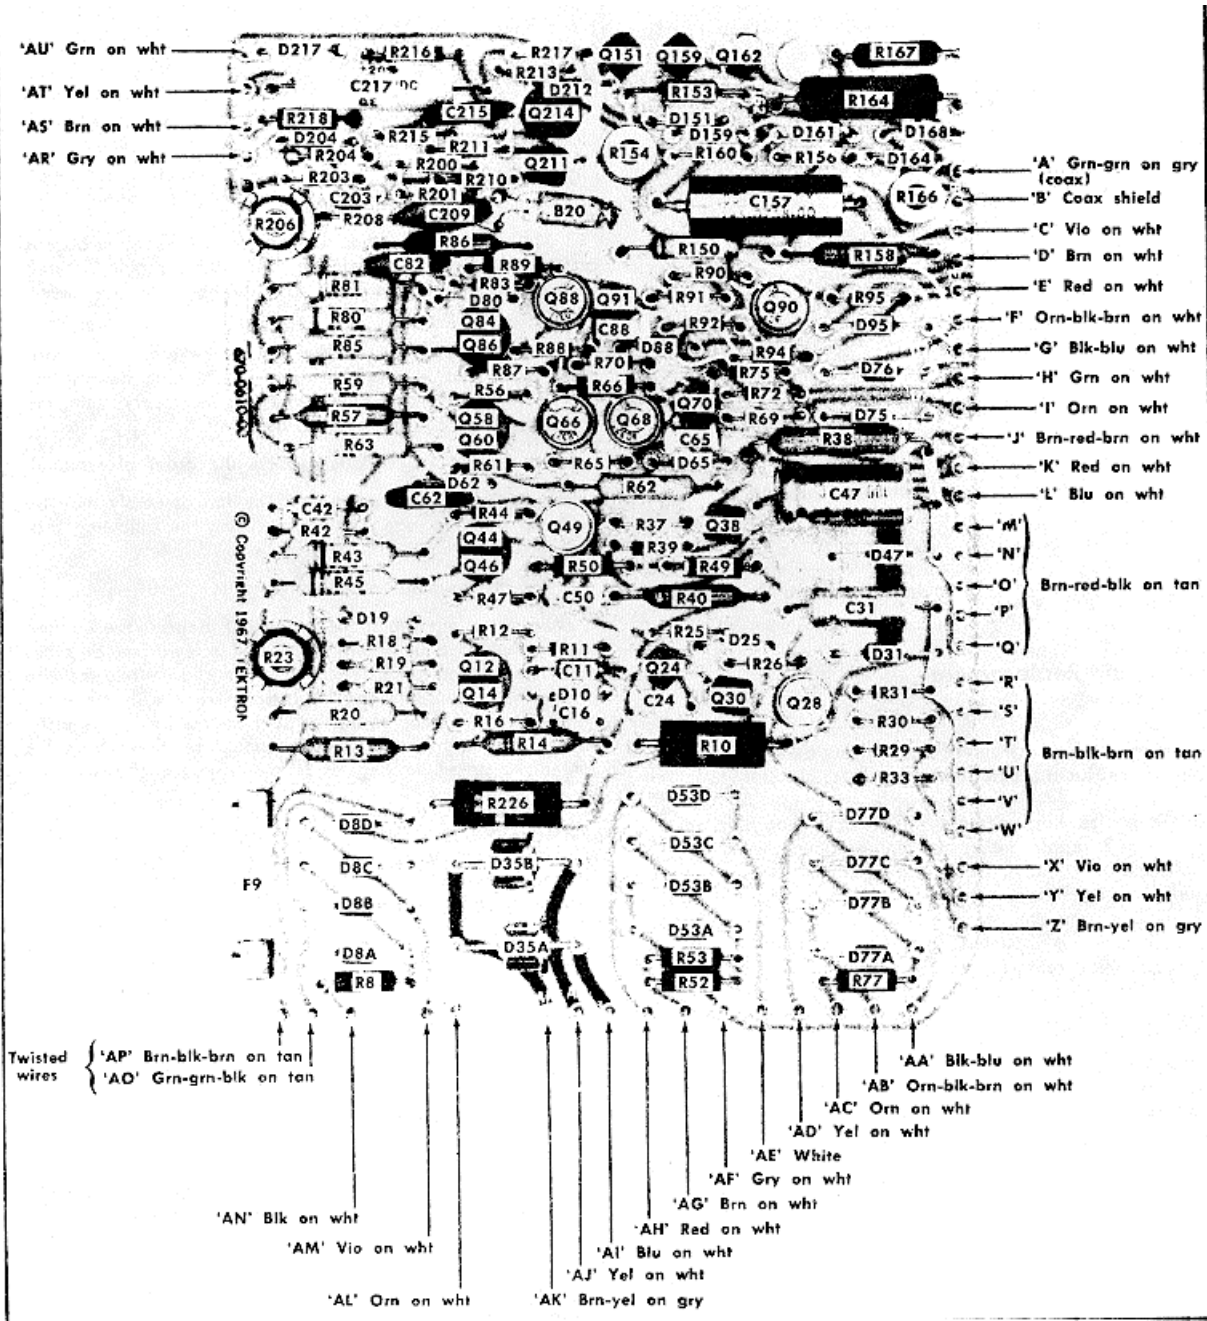

Fig. 4-5 Low Voltage Power Supply and 1 kHz Calibrator circuit board.
6. Check Circuit Board Interconnections. After the trouble has been isolated to a particular circuit, check the pin connectors on the circuit board for correct connection. Figs. 4-5 through 4-7 show the correct connections for each board.
B. If the problem is possibly in the -100-, or +125-, or +300-volt supplies, visually check current sensing resistors R33, R75 and R94 for charring or cracking. For location of components, refer to Fig. 4-5.
Circuit Board Replacement. If a circuit board is damaged beyond repair, either the entire assembly including all soldered-on components, or the board only, can be replaced. Part numbers are given in the Mechanical Parts List for either the completely wired or the unwired board. Many of the components mounted on the circuit boards can be replaced without removing the boards from the instrument. Observe the soldering precautions given under Soldering Techniques in this section. However, if the bottom side of the board must be reached or if the board must be moved to gain access to other areas of the instrument, the mounting screws need to be removed and it may be necessary to disconnect some of the interconnecting wires from the pin connectors. Refer to Figs. 4-5 through 4-7 for component locations and interconnecting wire identifying colors.